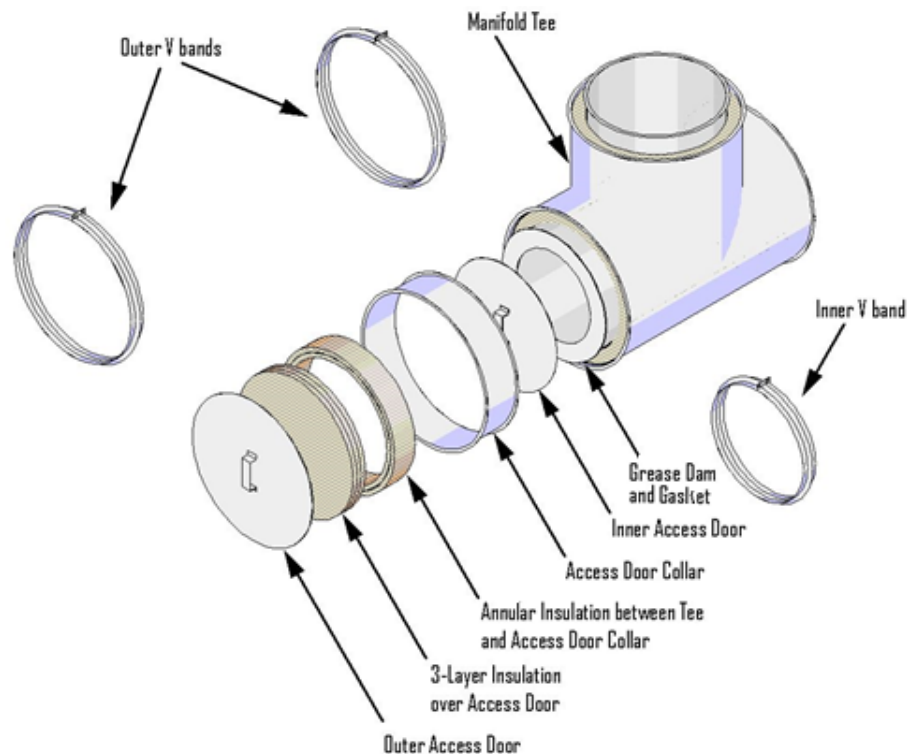

Figure 2. Access Door Assembly
- B. ACCESS DOOR – When required, use the duct manufacturer's manifold tee and access door (tee cap) assembly (see Figure 2). Apply a 1/4 in. continuous bead of sealant (Item 2A) to the inner flange of the tee on the side where access door is to be located. Center the supplied grease dam over the opening of the tee. Verify that grease dam is sealed to the tee flange by applying pressure. Remove excess sealant (Item 2A). Apply supplied Garlock Blue-Gard® 3000 gasket to grease dam with a 1/4 in. continuous bead of sealant (Item 2A) applied to the grease dam 1 in. from